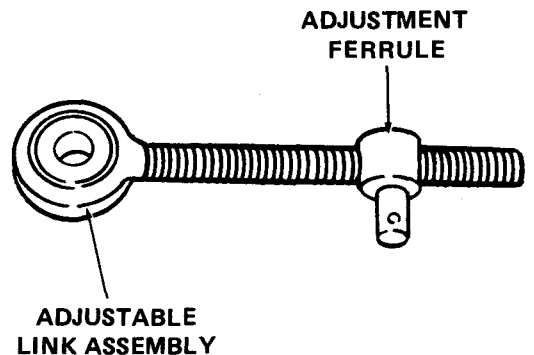

Figure B-19
- a. Thread a hex center lock nut (J) onto hitch chain hook.
- b. Insert hitch chain hook into hole provided in draft bar assembly and secure with lock washer (I) and hex center lock nut (J).
9. Install adjustable link assembly (6) as follows:
- a. Thread adjustment ferrule (Q) onto adjustable link assembly. Refer to Figure B-19.